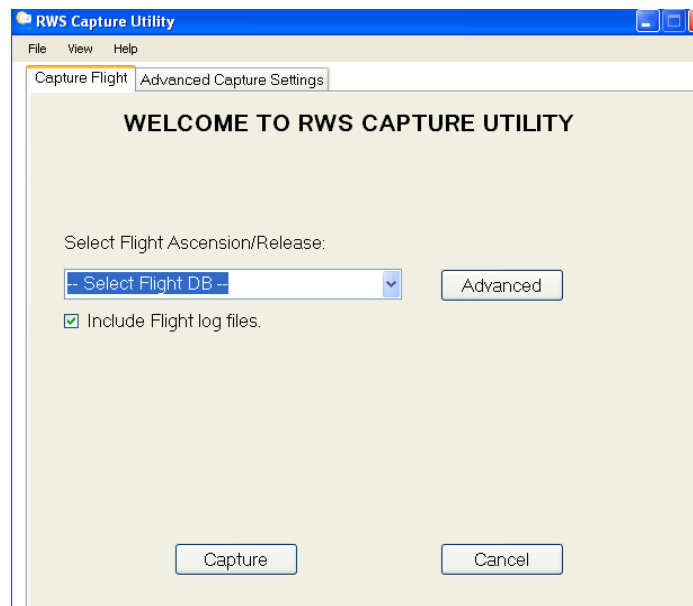

Figure B-24: RWS Capture Utility
2. Select the flight from the *RWS Capture Utility* pull-down menu (Figure B-24).